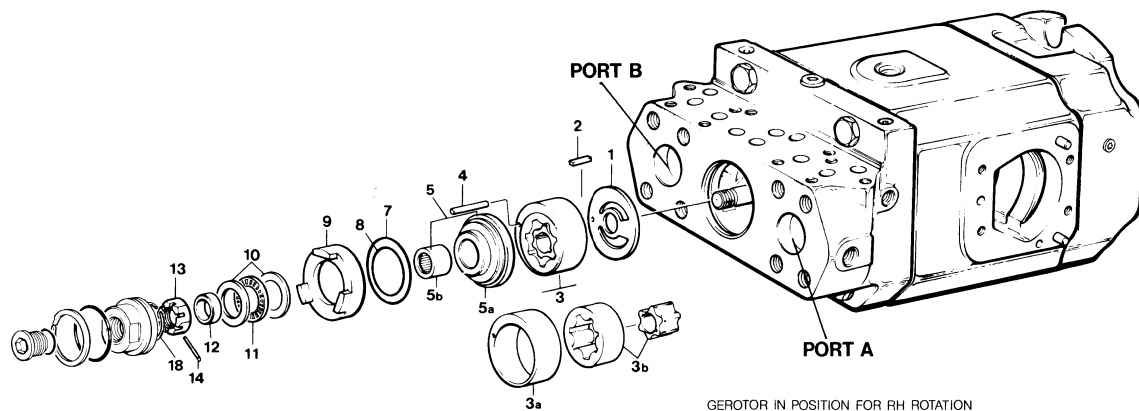

Figure 9
**See figure 9:** Position the unit with the shaft in a horizontal position and the valve block mounting surface turned up. Rotate the shaft until the small keyway in the auxiliary shaft is at 12 o'clock position.
**PARTS LIST FOR FIGURE 9**